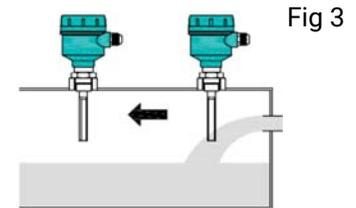

Fig 3
1. Mounting location is away from inlet of the material feed and heavy splashing on fork to prevent unwanted switching. Refer fig. 3.